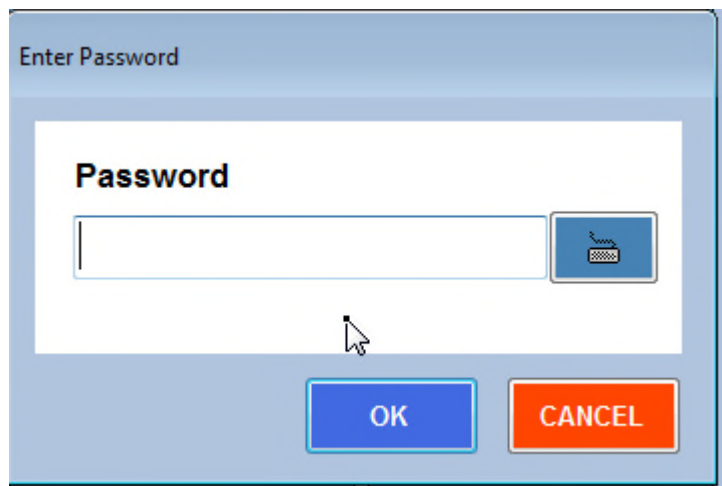

Figure 10.1 – Enter Menu Password (if required)
- Click the **Menu** button and enter the password (refer to Figure 10.1). The factory default password is 123, if was not modified by the Lab's Manager.